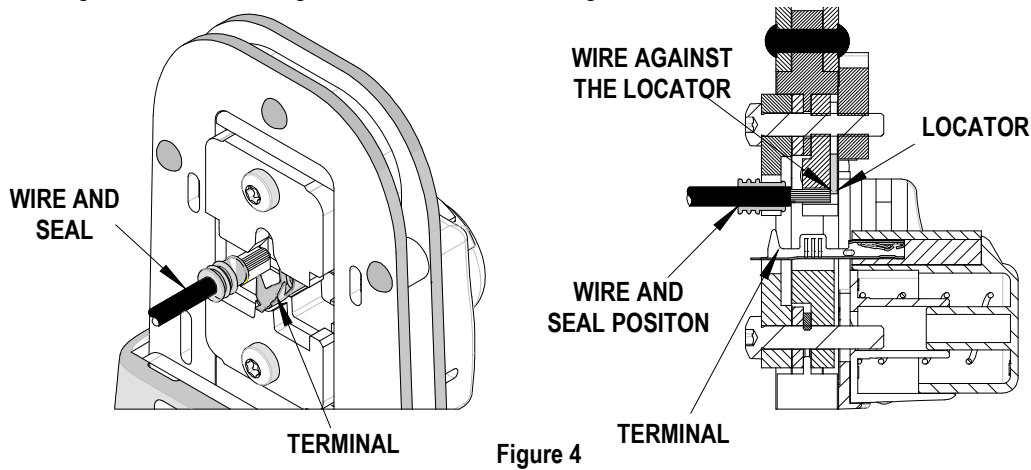

Figure 4
5. With the hand tool open, insert the properly stripped wire and seal under the punches into the lower part of the upper tooling until the wire is against the locator. See Figure 4.